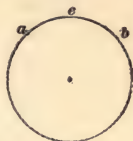

FIG. 12.
30. An **arc** of a circle is any part of its circumference; thus $a e b$, Fig. 12, is an arc of the circle.